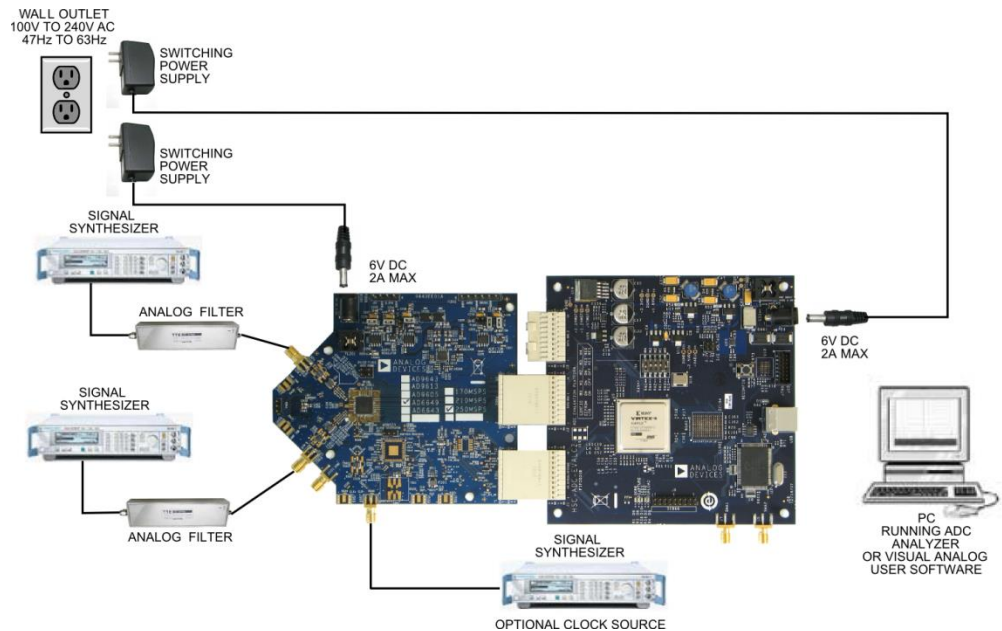

Figure 1: AD9643 Evaluation Board with HSC-ADC_EVALCZ Data Capture Board
1. Connect the AD9643 evaluation board and the HSC-ADC-EVALCZ board together as shown in Figure 1.
9. Next open the SPI Controller software. If prompted for a configuration file, select the configuration file titled AD9643spiR03.cfg. If not, check the title bar of the window to see which configuration is loaded. If necessary, choose “Cfg Open” from the “File” menu and select one of the configuration files named above. Note that the CHIP ID(1) field may be filled whether the correct SPI Controller configuration file is loaded or not.